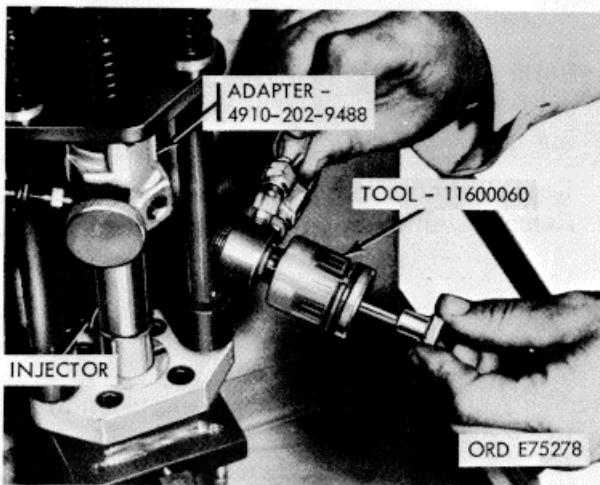
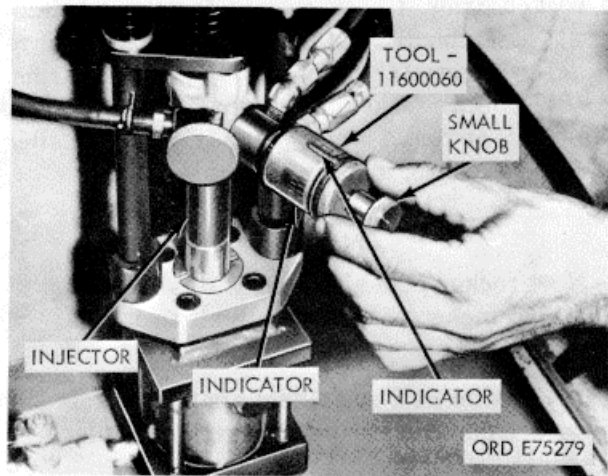

Figure 3-69. Orifice hole burnishing tool installation
Figure 3-70. Orifice plug burnishing
(7) PT injector delivery is adjusted during test by burnishing inlet orifice plug with orifice hole bur- nishing tool (9, fig. B-28). Install tool as shown in figure 3-69.
(8) Retract burnishing tool needle by pulling out small knob. With the needle retracted, tool may be left in connector during all test operations.
(9) Run injector through a test cycle (d above), check cc delivery. If delivery is lower than specifications, turn knob with indicator point until it is spaced 1A inch from large knob (fig. 3-70).
(10) Slowly push small knob in until you feel needle enters orifice plug inside diameter, then turn knob counterclockwise to lock needle shaft to larger knob with indicator. Turn indicator knob in until you feel needle contact plug. Index indicator with mark for each two cc increased delivery (fig. 3-70).
(11) Back off adjusting screw and retract needle. Retest injector (para. d, above). If delivery is more than 116-117 cc. a new injector body must be install- | ed.
(12) Recheck injector delivery for specified 116-| 117 cc with new injector body.